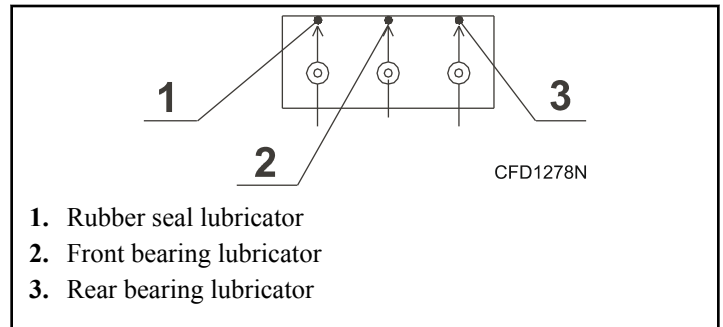

Figure 60
1. **33 kg/ 75 lb/335 L, 40 kg/90 lb./400 L and 55 kg/125 lb./520 L models** - Using a multipurpose lithium lubricant containing high pressure consistency addition (NLGI or ES-SO - BEACON EP 2) lubricate seal and bearings with 2 strokes (2 cm3) while the basket is rotating at wash speed. Refer to *Figure 60* .